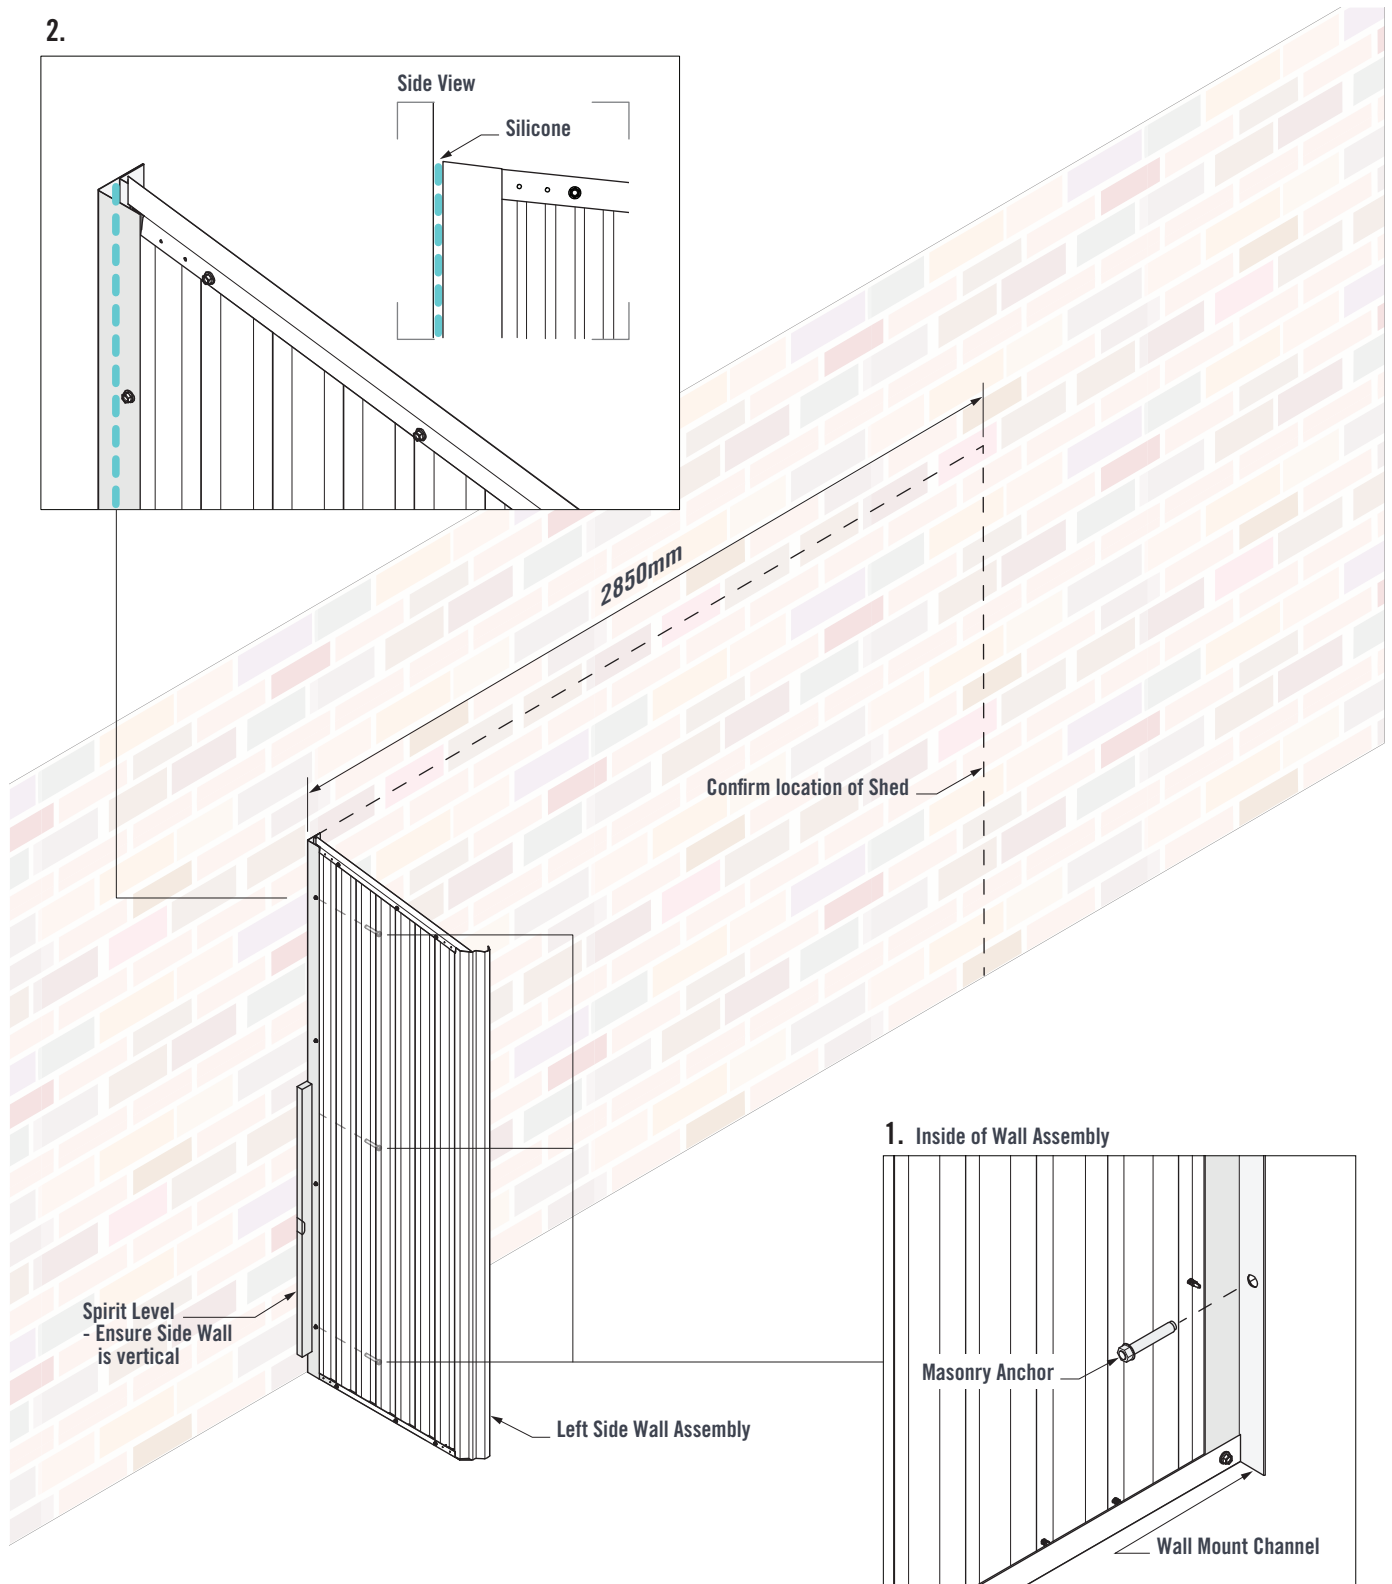

FIGURE 8.0
Confirm the location of the Shed against the building wall. Position the Left Side Wall Assembly against the building wall. Use a spirit level to ensure the Wall Assembly it is vertical and square to the wall (Figure 8.0).
1. Mark and drill three 10mm holes through the pilot holes of the Wall Mount Channel and into the building wall. Loosely install three M10x47 Masonry Anchors (Figure 8.0).
2. Before tightening the Masonry Anchors, apply a bead of silicone between the Wall Mount Channel and building wall to prevent rain entering the shed (Figure 8.0).